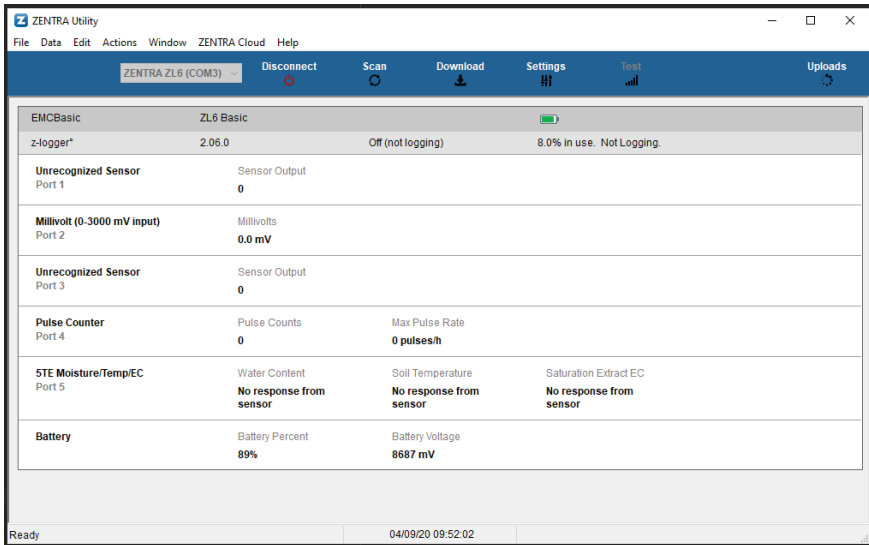

Figure 2 ZENTRA Utility showing a connected ZL6 and its instantaneous measurements
3. Click the Connect button next to the COM port dropdown menu (Figure 2).
Once successfully connected, ZENTRA Utility displays the instantaneous sensor measurements from the ZL6 (Figure 2).